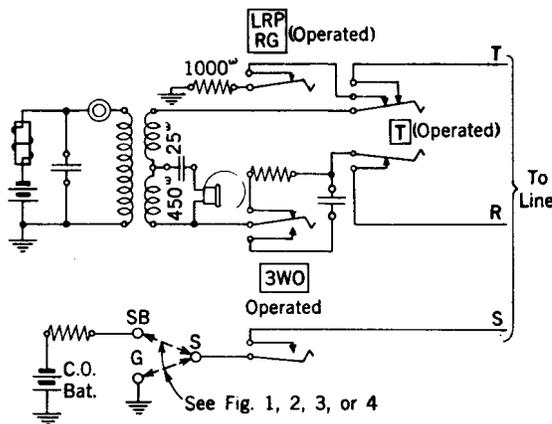

Fig. 11 - Check of Central Office Subscriber Line Circuit
5.17 Operate the T key to connect the telephone induction coil in series with a resistance across the tip and ring of the test circuit through the T and 3WO keys. See Fig. 11. When the line is thus bridged the line relay should operate and be indicated by the answering of the switchboard operator or by reception of dial tone.